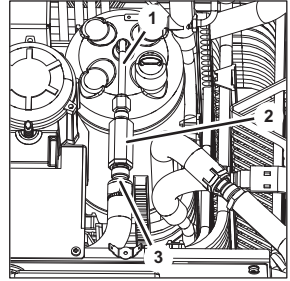

Figure 98
1. Release the couplings (Figure 98/1 and 3) on the non-return valve (Figure 98/2).
2. Lift the non-return valve (Figure 98/2) out of the unit.
5. Attach the non-return valve (Figure 98/2) using the couplings (Figure 98/1 and 3).